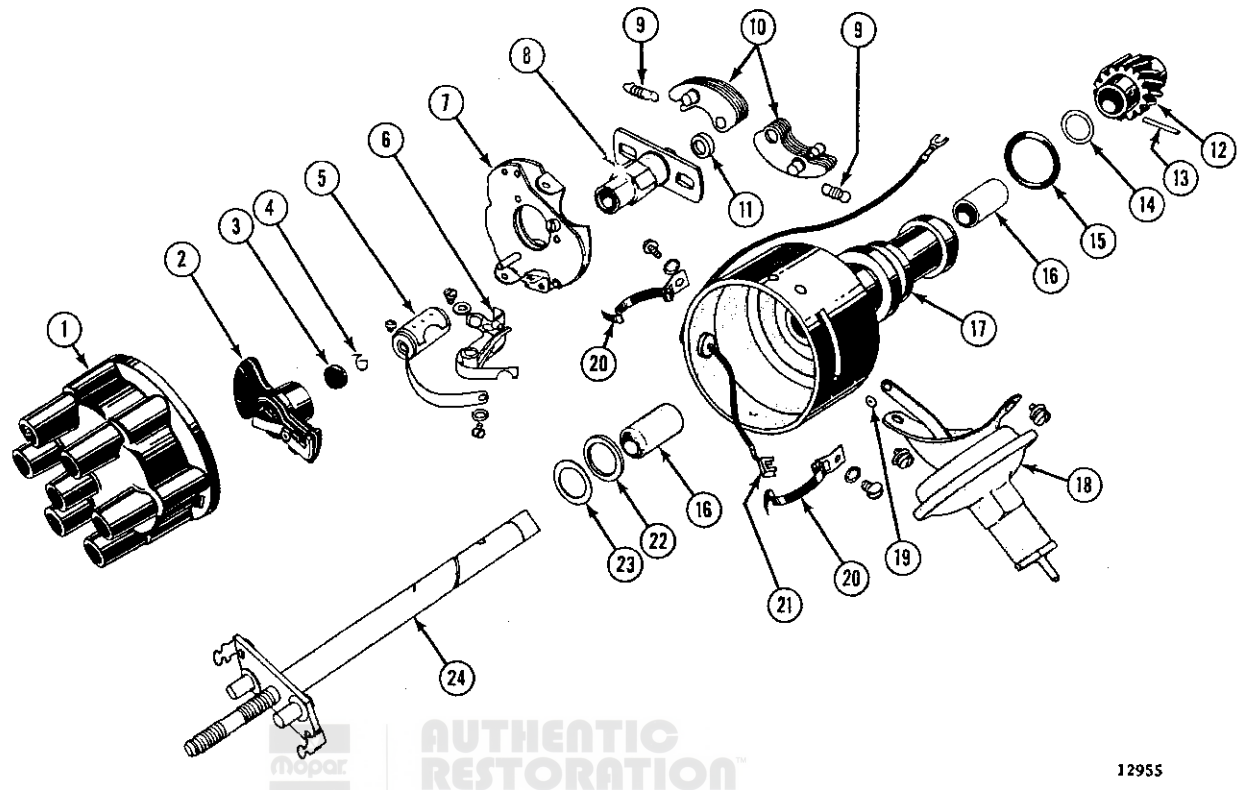

FIG. H-8—PRESTOLITE DISTRIBUTOR—DAUNTLESS V-6 ENGINE
The Prestolite distributor on the F4 engine is mounted on the right side of the engine and is operated by a coupling on the oil pump shaft, see Fig. D-1, which is driven by a spiral gear on the camshaft. The spark advance is fully automatic, being controlled by built-in centrifugal weights. The Prestolite distributor on the V-6 engine (Fig. H-8) is mounted at the left front of the engine on the timing chain cover. It is driven by a spiral gear on the camshaft. The spark advance is fully automatic, being controlled by built-in centrifugal weights, and by a vacuum advance system. While some parts of the distributor may be checked or replaced with the unit mounted on the engine, it is best to periodically remove it for a thorough check. Infor-
Refer to Fig. H-8 and H-9.
bearing before installing the drive shaft. Refer to Fig. H-8 item 16.